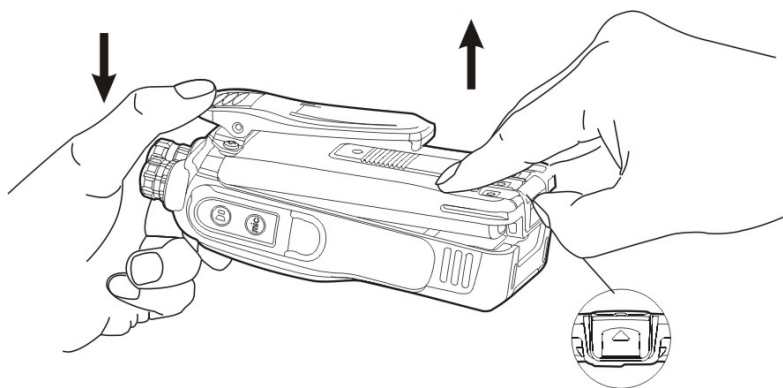

Figure 1
- ① Turn off the radio. Hold the upper side of the radio and press the belt clip until it tilts. Push the battery latch upwards along the slot of the battery latch at the bottom of the battery. See figure 1.